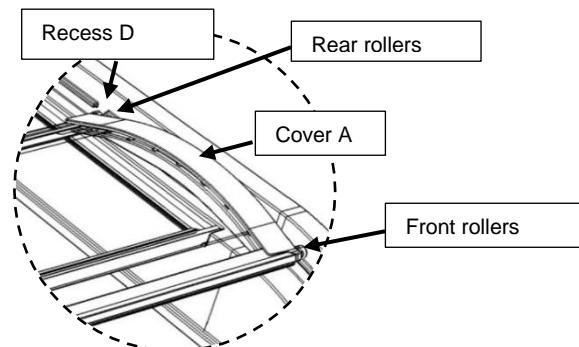

Fig. 8: Push-back glass cover pull out
1. Push the front cover A (see → Fig. 7) with handle to the rear to the recess D (see → Fig. 8).
2. Insert middle cover B (see → Fig. 7) and push forwards approx. 5 cm over the recess D (see → Fig. 8).